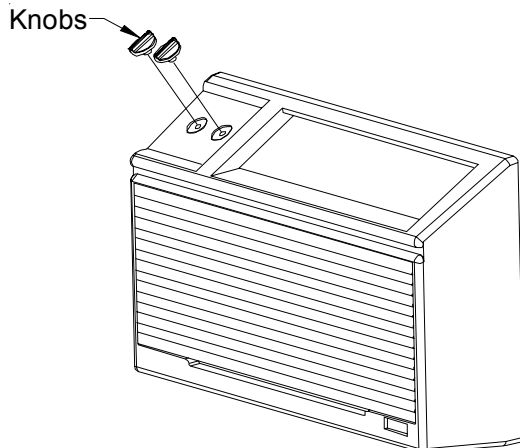

Figure 12
3. Reattach the filter and front grille. Place the supplied knobs onto the proper stem (Figure 12).